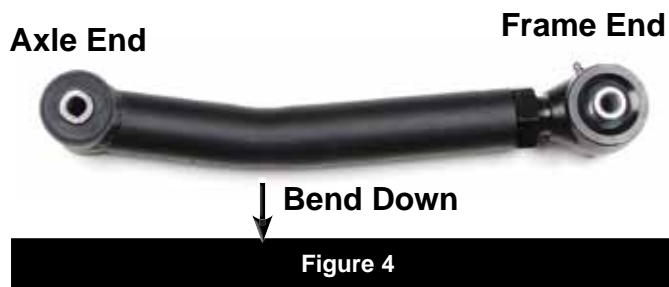

Figure 4
21. Install the adjustable end of the new lower control arms in the frame mount so that the bend in the arm is down and the zerk fitting is on top (Fig 4). Attach the arms to the axle with factory hardware. Leave all hardware loose.